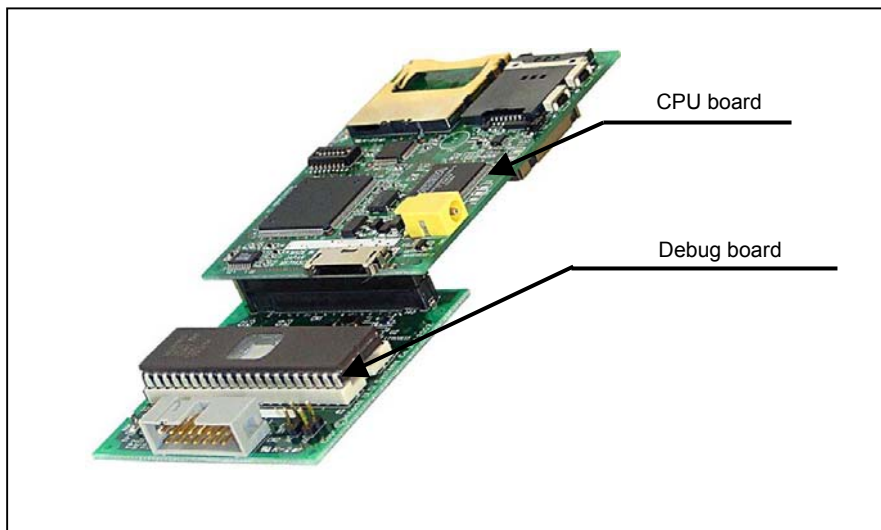

Figure 1.2 External View of the μ T-Engine Board
Figure 1.2 shows an external view of the μ T-Engine board. Figures 1.3-(A) and (B) show the name of each part of the board.